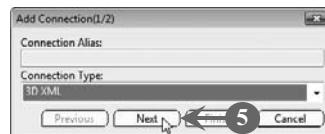

FIGURE 1.22
5. Click the **Next** button to continue, as shown in **Figure 1.22**: